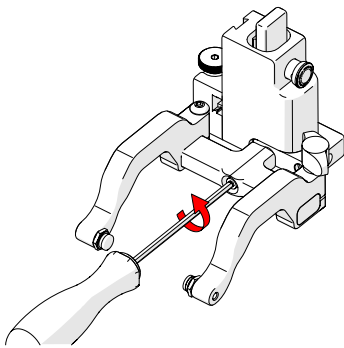

Fig. 134 - Remove yoke
1. Using the supplied 3 mm driver, unscrew the yoke (Fig. 134).